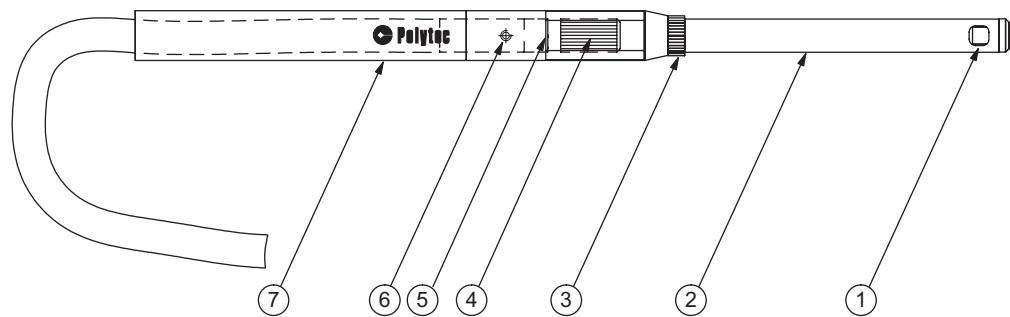

Figure A.4: Side exit head OFV-C-110 with mini sensor mounted
**Assembly** The assembly of the side exit head OFV-C-102 and OFV-C-110 is made in the same way. The side exit head OFV-C-110 with mini sensor mounted is shown in figure A.4.